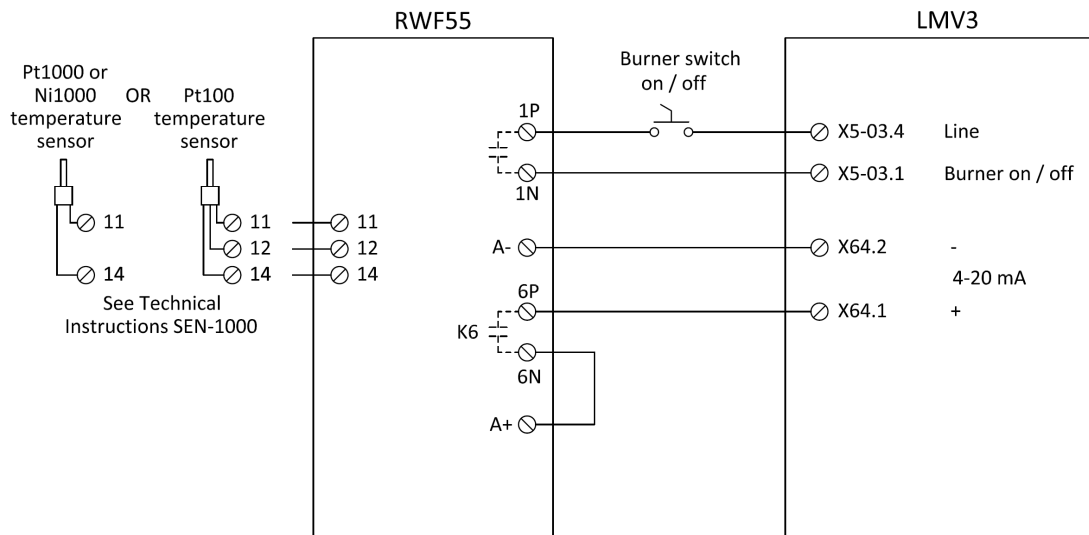

Figure 6: Low Fire Hold via Analog Output on a Hot Water Boiler
2. Wire the LMV3 and RWF55 as shown in Figure 6: